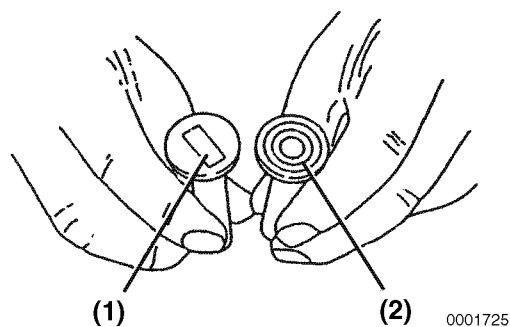

Figure 6-120
1. Inspect the tappet contact surfaces for abnormal wear (**Figure 6-120, (1)**). Normal wear will be even as shown in (**Figure 6-120, (2)**). Slight surface defects can be corrected using an oilstone.